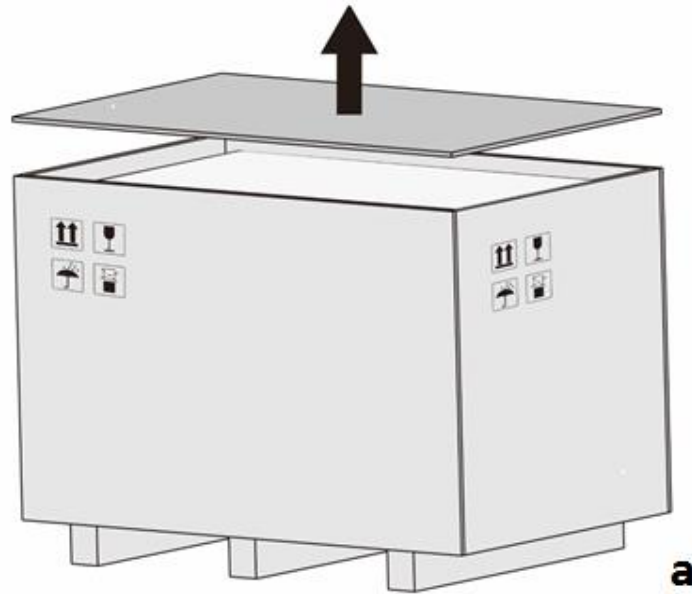

Figure 2-2a. Wooden Case Unpacking Step 1
**1st Step:** Please first remove the roof plate of the wooden case, as shown in figure 2-2a.